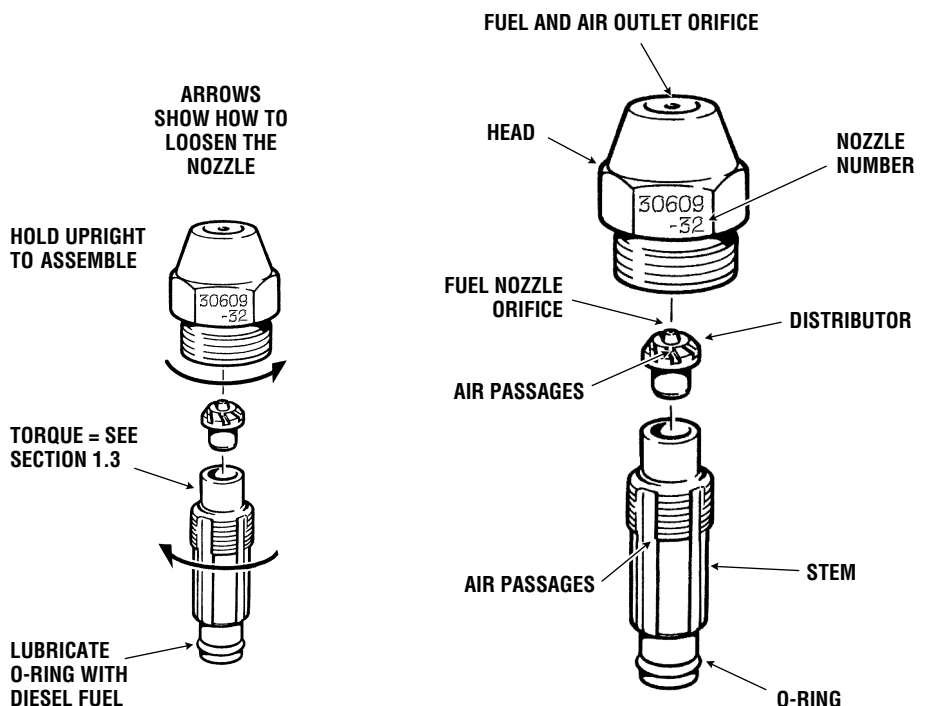

Figure 5-12 Fuel Nozzle Assembly
- Remove three (3) bolts from the fan end and open up heater.
- Disassemble, inspect, clean and reassemble Fuel Nozzle (Figure 5-12).